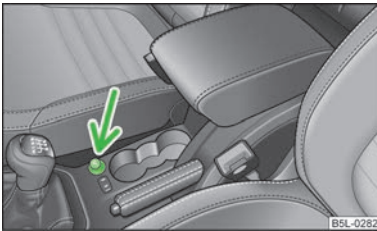

Fig. 69
- Press in the button of the cigarette lighter » Fig. 69.
In the front centre console » Fig. 69 on page 71.
- Remove the socket cover or the cigarette lighter » Fig. 69 on page 71.